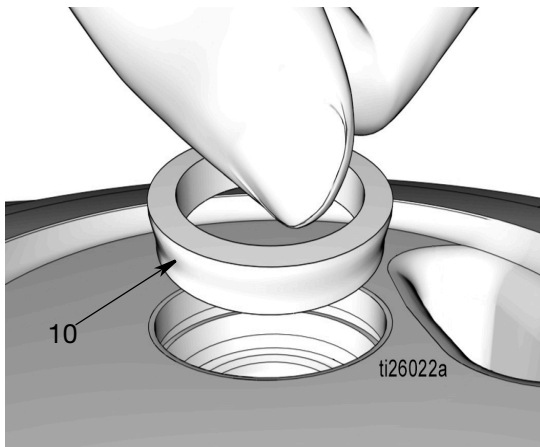

FIG. 38
- i. Install the tapered spacer (10), tapered side facing down as shown in FIG. 38.